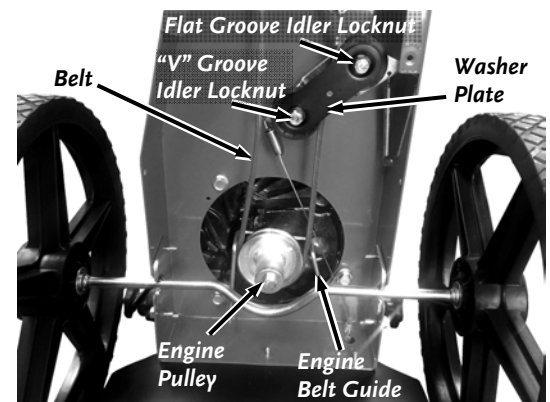

Figure 27
4. Remove the Locknut that secures the Washer Plate to the flat groove Idler Pulley using a 9/16" Wrench (**Figure 27**). Loosen the other Locknut to the V groove Idler Pulley using a 9/16" Wrench just enough so the Washer Plate can be rotated out of the way.
10. Rotate the Washer Plate onto the Flat Groove Idler Stud and install the Locknut using a 9/16" Wrench (**Figure 27**). Tighten both Idler Locknuts using a 9/16" Wrench.